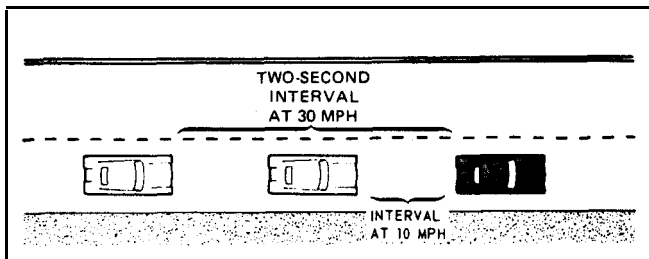

FIGURE 21
b. **Following Too Closely.** Most rear-end collisions are caused by following too closely; this action is one of the four major causes of accidents. As shown above, the distance required to stop a car increases greatly as speed is increased. A guide for estimating safe distance when following another vehicle, at least at the lower speeds, is: Allow at least 1 second for every 10 feet of vehicle length. This is 2 seconds for the average car. Pick a point on the road, or along side of the road. When the rear of the vehicle ahead passes this point, start counting; 1001, 1002, 1003, etc., until the front of your vehicle is at the same point. The higher the speed, the greater the interval becomes for the same count (Figure 21). The danger of rear-end collisions can be reduced by decreasing your speed, allowing sufficient space between your car and those ahead, and giving proper signals. The injuries to passengers and driver that result from such collisions can also be reduced by consistent use of seat belts.